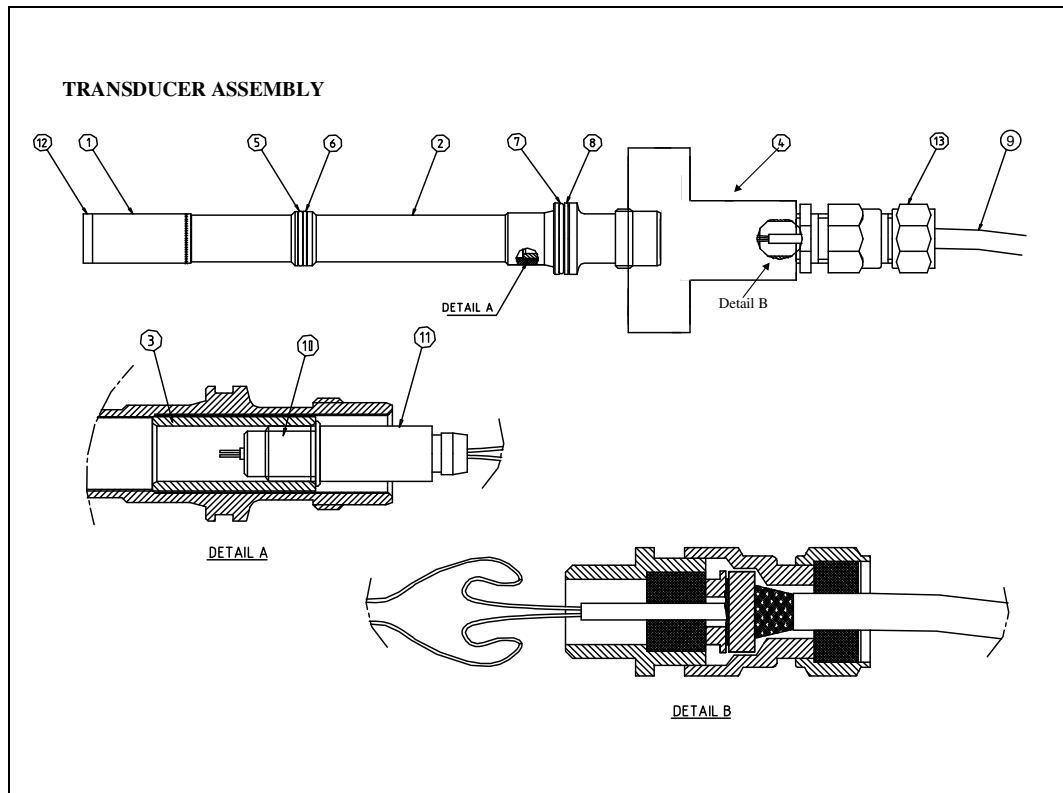

Figure 5 Transducer Assembly
- C. Replace the O-rings and the Back-up rings on the Transducer (see **Figure 5**). Put silicon grease (Gleitmo 750 or equivalent) on the new O-rings. Do not use too much silicon grease on these O-rings, wipe off superfluous grease before mounting. The silicon grease can make an acoustic contact between the Transducer and the Spool Piece, which will disturb the ultrasonic signals.